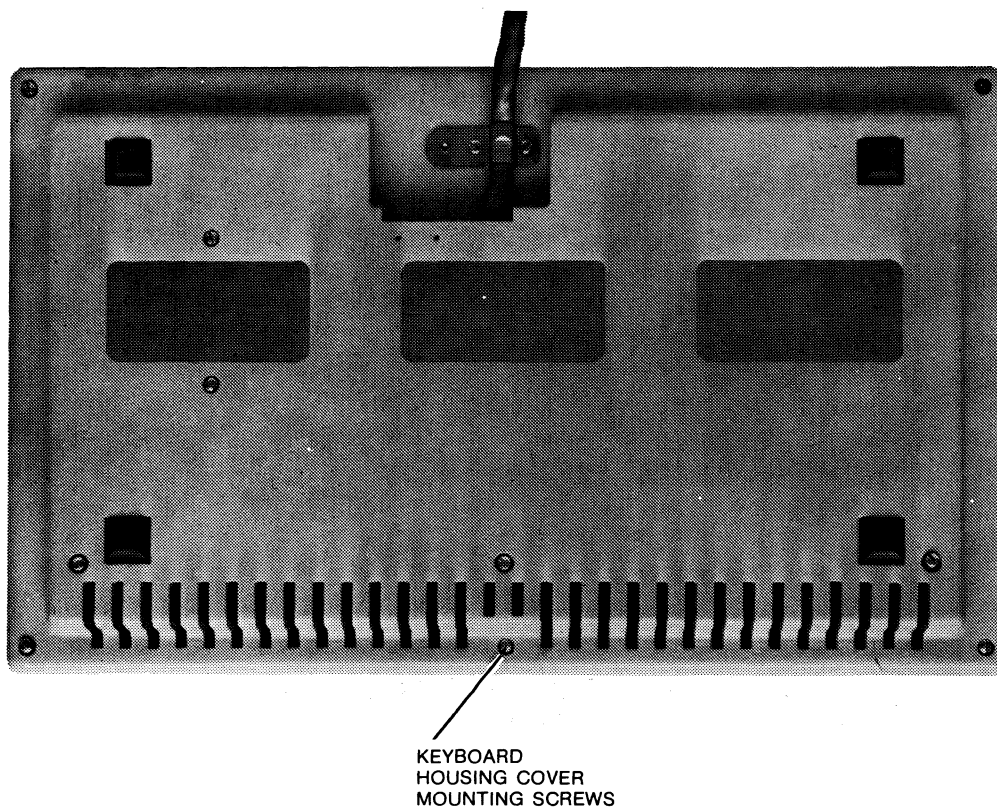

FIGURE 4-7. KEYBOARD (BOTTOM VIEW)
1. Tilt the keyboard as shown in Figure 4-7.
2. Remove the six keyboard housing cover mounting screws located on the bottom of the keyboard (Figure 4-7).